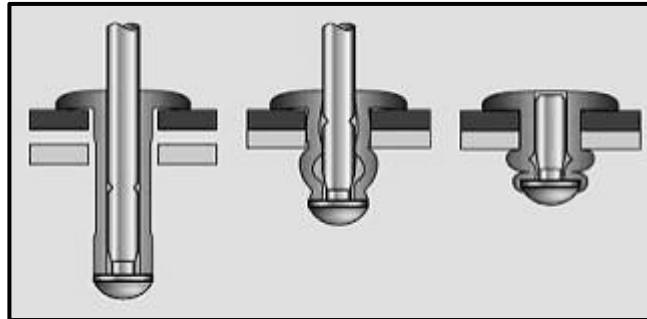

FIGURE 4.8
- 4.8 FIGURE 4.8 below shows the different stages of a pop rivet during the riveting process. Identify the type of force that is exerted onto the casing of the pop rivet.